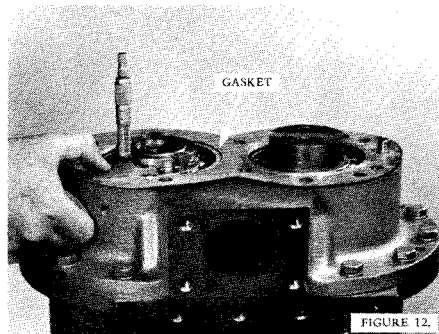

FIGURE 12.
- Install bearing outer race shims and cover plate gasket. Shims are laminated and can be peeled to correct thickness. Shims must be .002" below bearing cover plate gasket. Check with depth micrometer, Figure 12. Shims must hold bearings in fixed position in bore. Be sure bearing outer race is seated in bore. NOTE: On fan cooled units with shaft extension on main rotor, install the shaft oil seal. Use care so teflon I.D. and carbon face are not damaged. Tighten Allen screws against shaft.